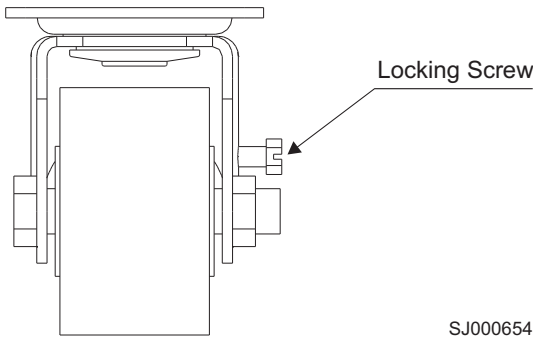

Figure 61. Caster wheel
3. Lock each caster wheel by tightening the screw on the caster. See Figure 61.